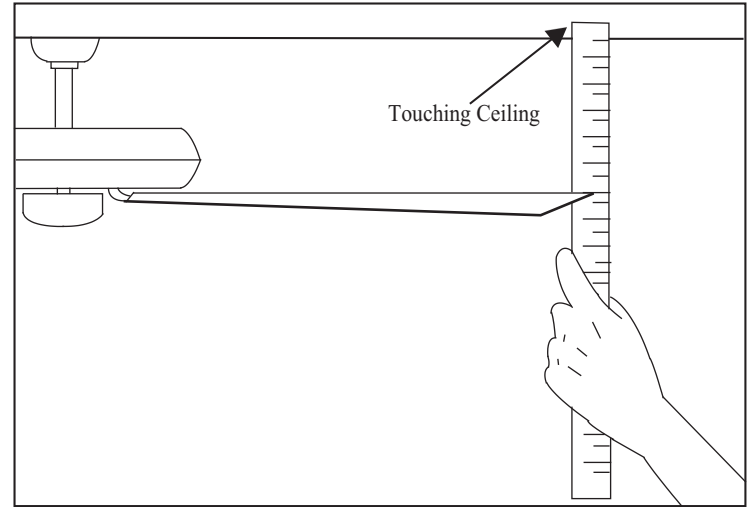

Figure 18
2. Most fan wobble problems are caused when blade levels are unequal. Check this level by selecting a point on the ceiling above the tip of one of the blades. Measure from a point on the center of each blade to the point on the ceiling. Measure this distance as shown in Figure 18. Rotate the fan until the next blade is positioned for measurement. Repeat for each blade. Measurements deviation should be within 1/8". Run the fan for 10 Minutes.